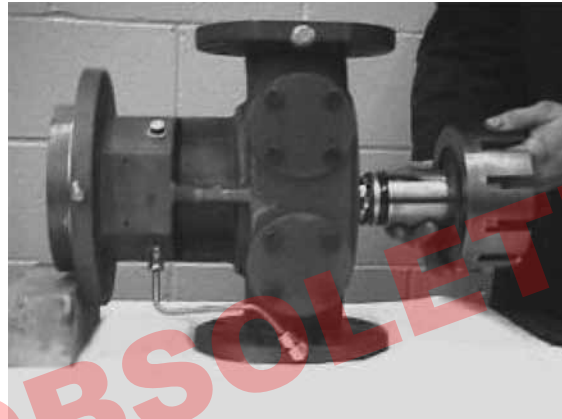

FIGURE 5
**NOTE:** To facilitate assembly, place the pump casing so that it is standing on one of its flanges with a block of wood under the mounting flange. See **FIGURE 5**.